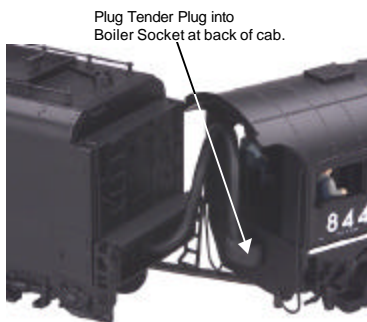

Figure 1. Connect the Tender to the Engine
4. Place the engine on the track, then insert the reverse unit plug that extends out of the tender into the receptacle at the back of the boiler cab (Figure 1). **WARNING: DO NOT CONNECT THIS ENGINE TO A TENDER FROM ANOTHER ENGINE; IT MAY CAUSE SERIOUS DAMAGE.** Look at the bottom of the engine and tender where each will have a color-coded stamp. If they match you may connect those two pieces; if not, don't.